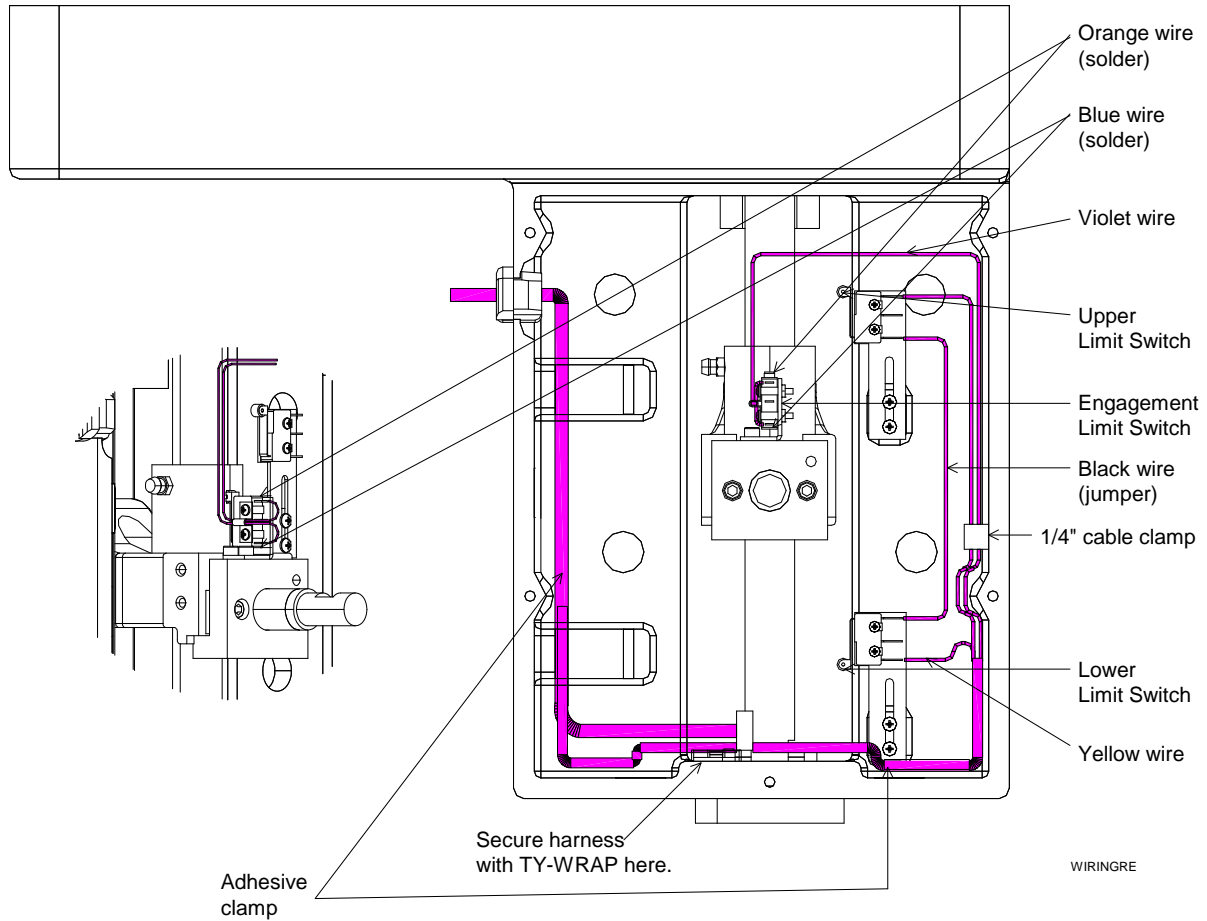

Figure 3-31, Z-Axis Quick Disconnect Downfeed Rotary Encoder Harness Wiring
1. Connect the yellow limit switch wire to the bottom terminal on the lower limit switch. Refer to **Table 3-3, Quick Disconnect Downfeed Limit Switch Pinout, Figure 3-30, Z-Axis Quick Disconnect Downfeed Linear Encoder Harness Wiring, and Figure 3-31, Z-Axis Quick Disconnect Downfeed Rotary Encoder Harness Wiring.**